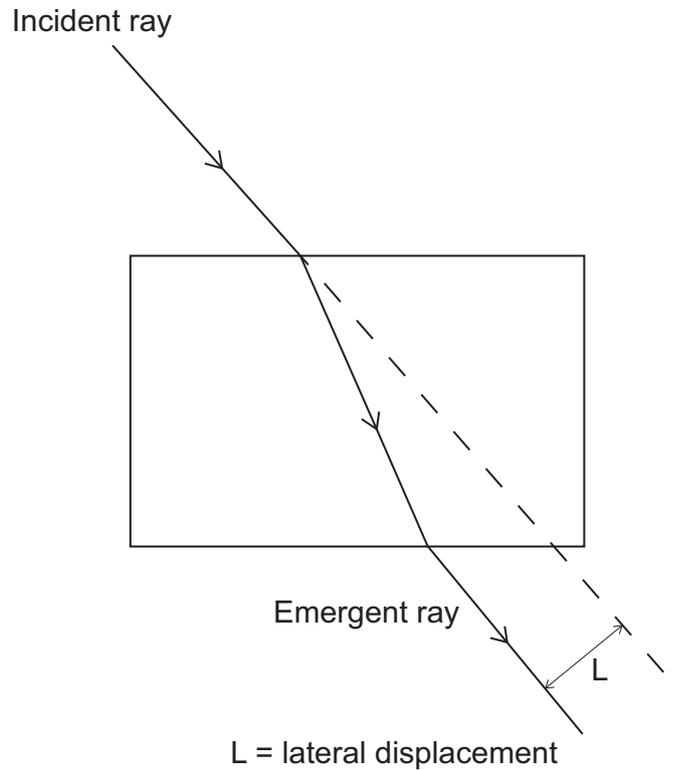

Fig. 1.4
- (b) The lateral displacement of a ray of light which has travelled through a transparent block is measured as the perpendicular distance between the emergent ray and the original path of the incident ray, see **Fig. 1.4**.